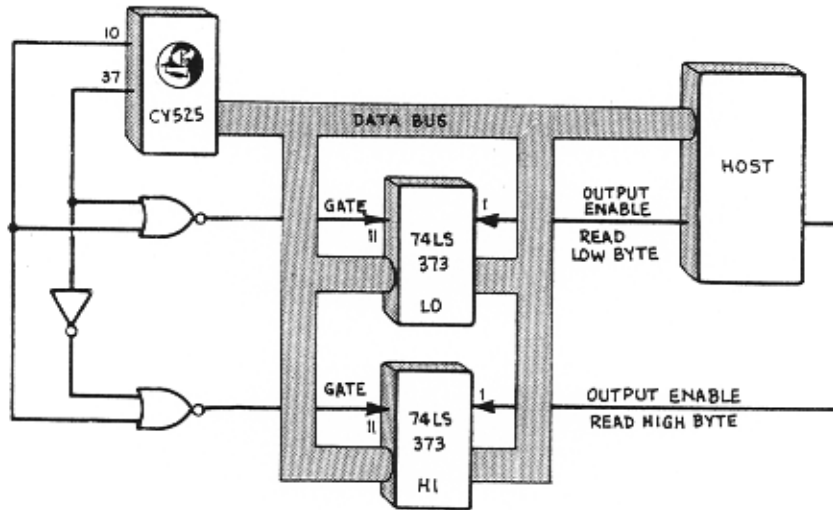
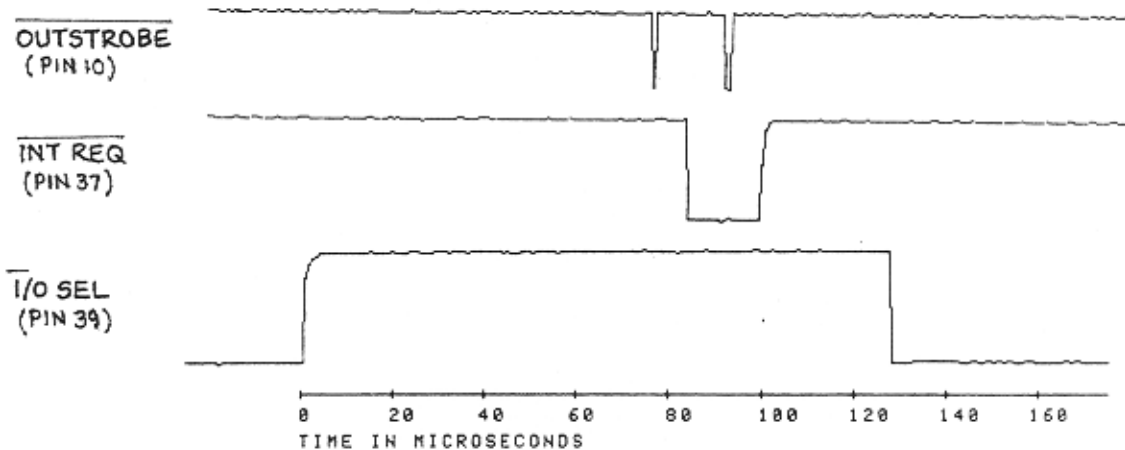

Figure 6.3 Typical circuit for latching position on the fly.
Figure 6.7 CY525 signals for READ on the fly. (11 MHz).
The circuit shown in figure 6.3 uses two 74LS373 latches to capture the 16-bit position that the CY525 produces in response to raising the I/O SEL line (pin 39). Figure 6.7 below shows the timing for a typical "read on the fly" operation. These signals appear on the pins of the CY525. The READ request is indicated by raising pin 39 and the write pulses appear on the OUTSTROBE pin (10). The signal on pin 37 distinguishes between the high and low byte of the 16-bit location.
The next figure illustrates typical timing for the latch control signals that enable the inputs and the outputs of the 74LS373s. The first two positive going strobes latch the data into the 373 and are derived from the signals on pins 10 and 37 as shown in figure 6.3. The last two low going pulses enable the output of the 74LS373s and are generated by the master computer. (11 MHz).